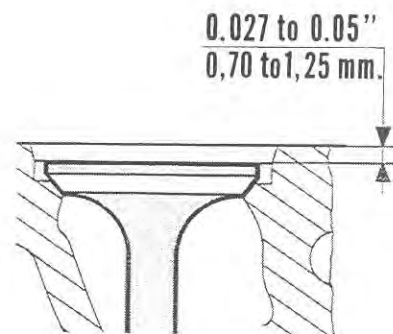

Fig. 6
- 3) Machine the valve seats if necessary, with a grinding machine with a stoned face to 44" or with a special tool, or where the tolerances exceed 0.05" (1.25 mm) (see Fig. 6).